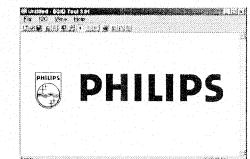
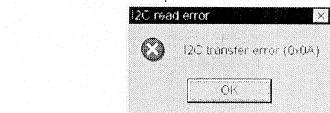

Fig. 8
Fig. 9
- : Double click EDID301 icon (as shown in Fig. 8) which is on the screen of Windows Wallpaper. Bring up main menu of EDID301 as shown in Fig. 9. This is for initialize alignment box.